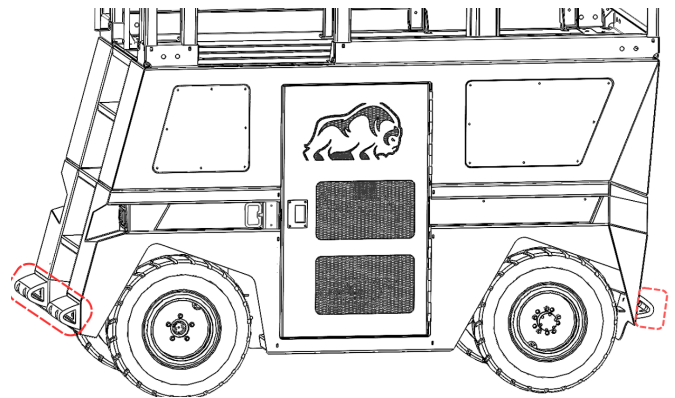

Figure 40. Front And Rear Bumpers.
- Front and rear bumpers. (see Figure 40).